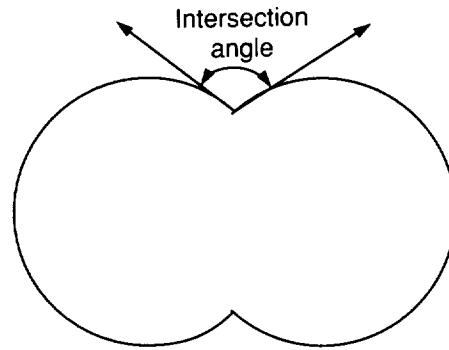

Figure 4.5. Intersection angle.
- **Intersection Angle** Adjusts the included angle between tangents of adjacent barrels at the plane of intersection (fig. 4.5). The slider bar adjusts the angle between the current bubble and the next consecutive bubble. The intersection angles can range from 0° to 180°. An intersection angle of 0° completely separates the two tank bubbles and an intersection angle of 180° merges the two bubbles into one chamber. The default intersection angle between two adjoining bubbles is 120°.